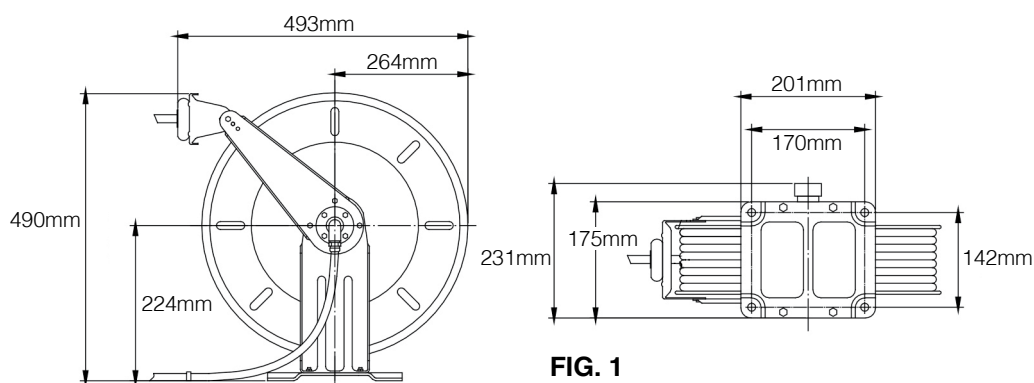

FIG. 1
- a) The reel base has four 12.7mm (1/2") drilled holes for mounting on a suitable flat surface. Figure 1 is a template showing the correct location of the 4 mounting holes in the base.